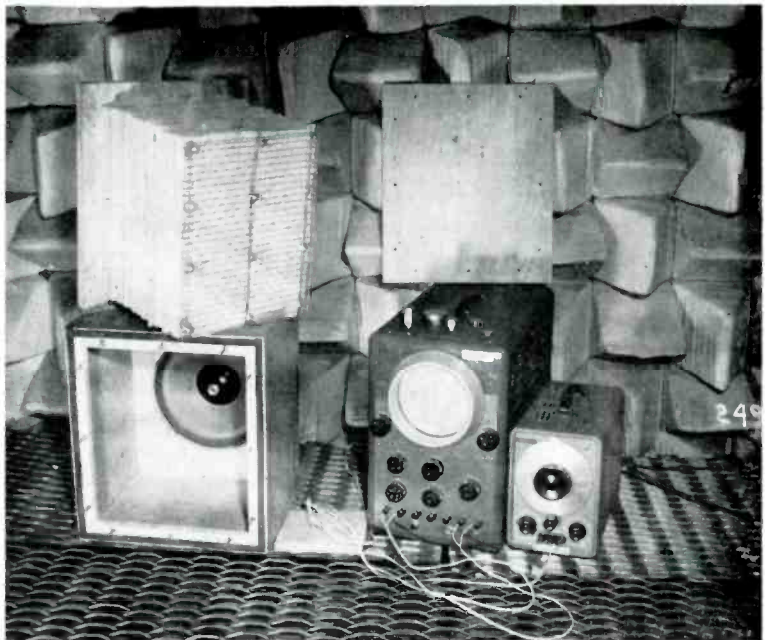

Fig. 4. Experimental apparatus showing inside of enclosure, placement of an additional mass, and the framework for holding the fiberglass stuffing.
The circuit of (B) is a two-degree-of-freedom system and solution of the equations governing it are, at best, tedious. It was, therefore, expedient to impose physically a special condition which reduced the circuit to that of (C) in Fig. 3, a simple single-degree-of-freedom system. The layers of fiberglass used in the experiment were suspended individually in a framework of heavy-gauge wire mesh as seen in Fig. 4. This has the effect of making  $C_f$  very low, thus stiffening the entire bulk of fiberglass and substantially preventing its motion relative to the enclosure. The